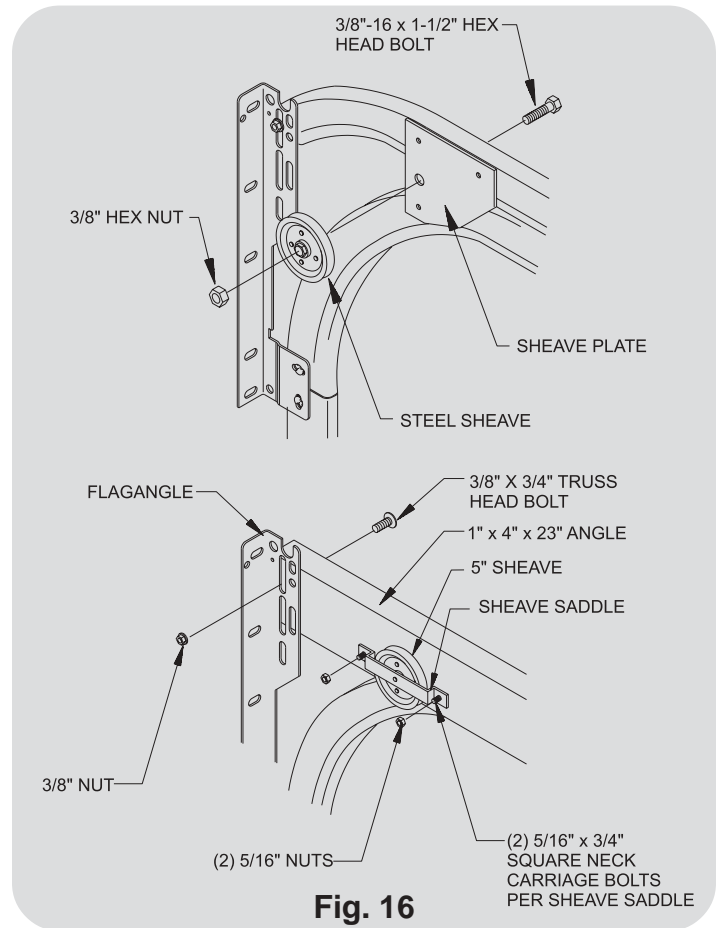

Fig. 16
Place a 3/8-16 x 1-1/2" hex head bolt through the hole in the sheave plate and slide a steel sheave over the end of the bolt as shown in **Fig. 16**. Secure the sheave using (1) 3/8" hex nut. For 1" x 4" x 23" angle applications, secure the steel sheave using the sheave saddle and (2) 5/16" x 3/4" square neck carriage bolts and nuts.